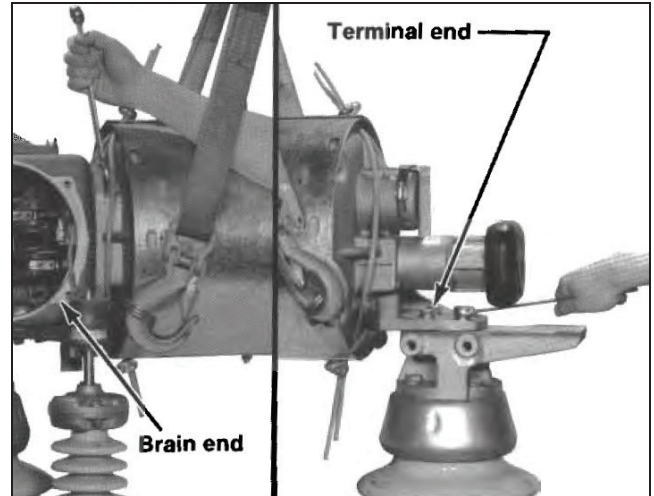

Figure 9. Unbolting the interrupter.
- STEP 8.** Remove the four ½–13-inch hex nuts and lockwashers from the studs fastening the interrupter to the brain. Then, remove the four ½–13 × 1½-inch hex-head cap screws, lockwashers, and flat washers (or toothed washers) at the terminal end. See Figure 9. Retain this hardware.